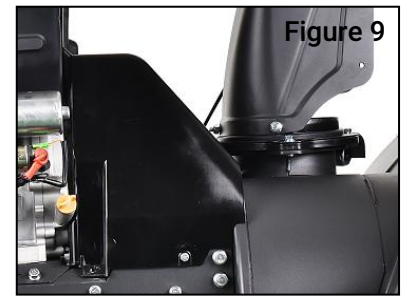

Figure 9
2. Remove the belt cover in the front of the engine by removing four self-tapping screws. See Figure 9.